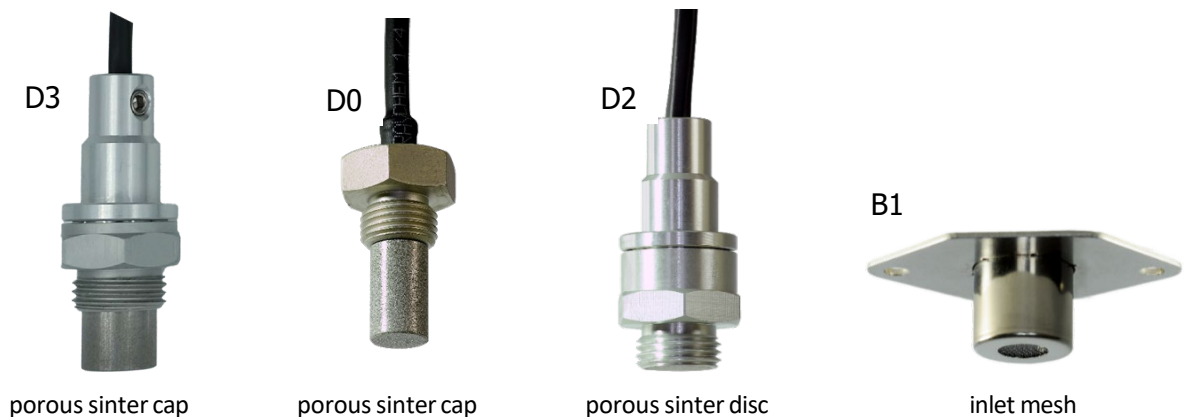

Figure 2. Sensor's porous sinter cap/disc or inlet mesh
- Sensor housing temperature depends on the selected sensor head design (Figure 2) and the thermal connection to the process chamber.